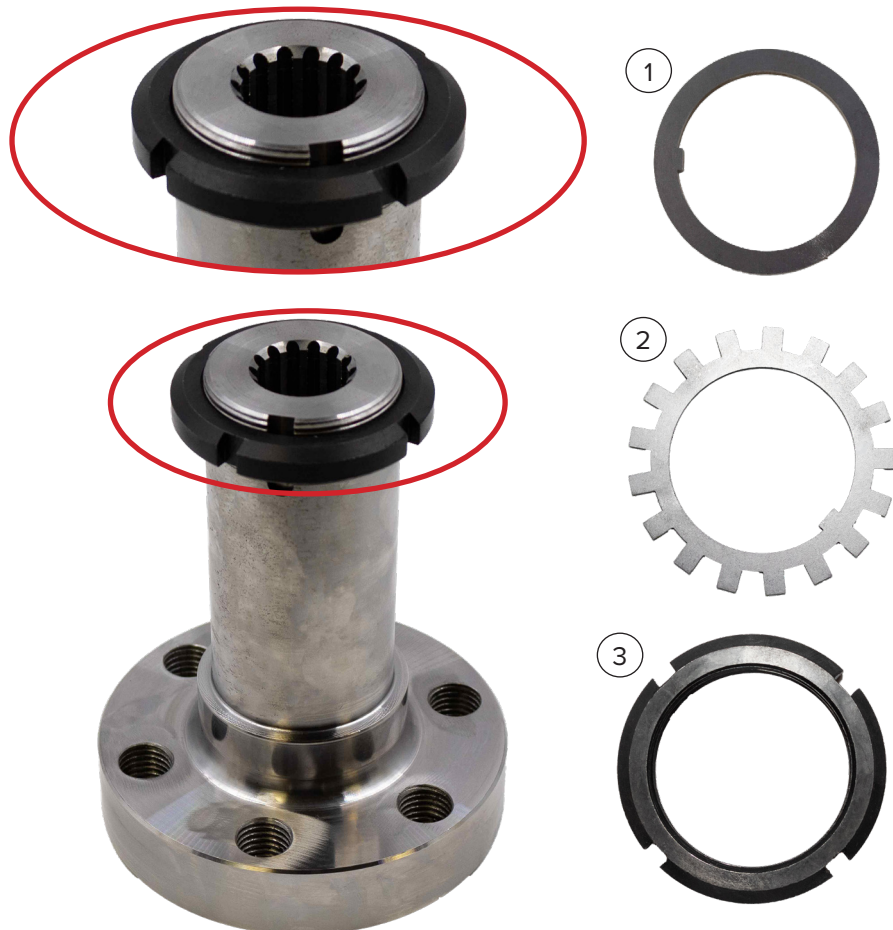

Figure 7
- Align the tab of washer with the groove in the spindle, and slide down onto the bearing. See Figure 7, Item 1.